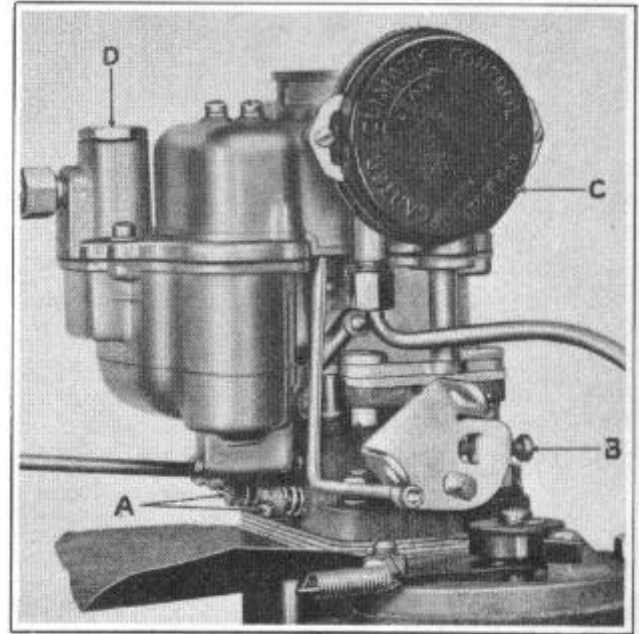

FIGURE 2
2. With engine up to normal operating temperature turn adjusting screws (A) Figure 2, clockwise into their seats alternately and back out counter-clockwise 3/4 of a turn.